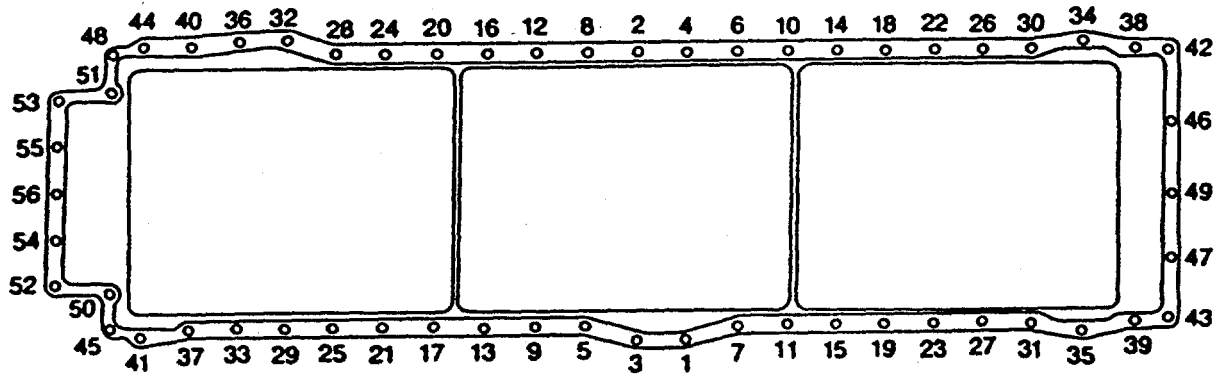

FIGURE 2-61. Oil Pan and Adapter Group Capscrew Torque Sequence.
- c. Install 56 flat washers (2), lockwashers (3), and hexagon head capscrews (11 and 4). Tighten to 45 ft-lb (60 N•m) following torque pattern (FIG. 2-61).